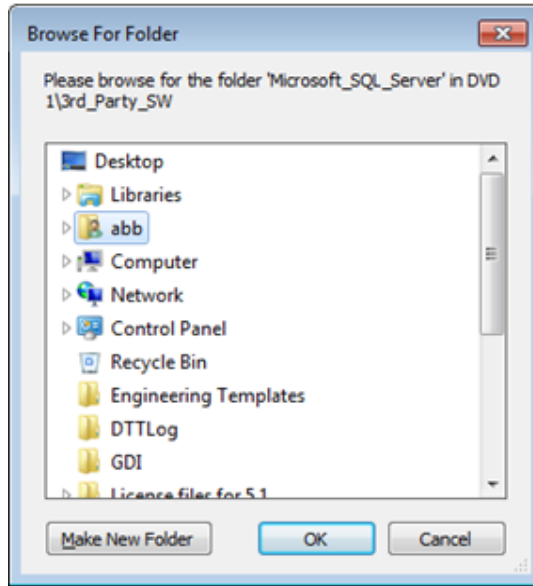

Figure 29. Browse for Folder Dialog Box
- m. A Browse for Folder dialog box similar to the one shown in Figure 29 appears. Browse to the following folder on 800xA System Installation DVD 1: